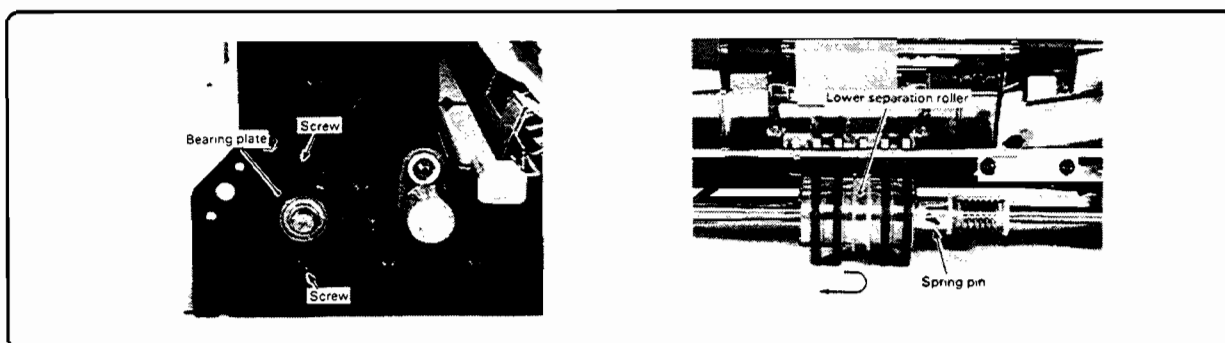
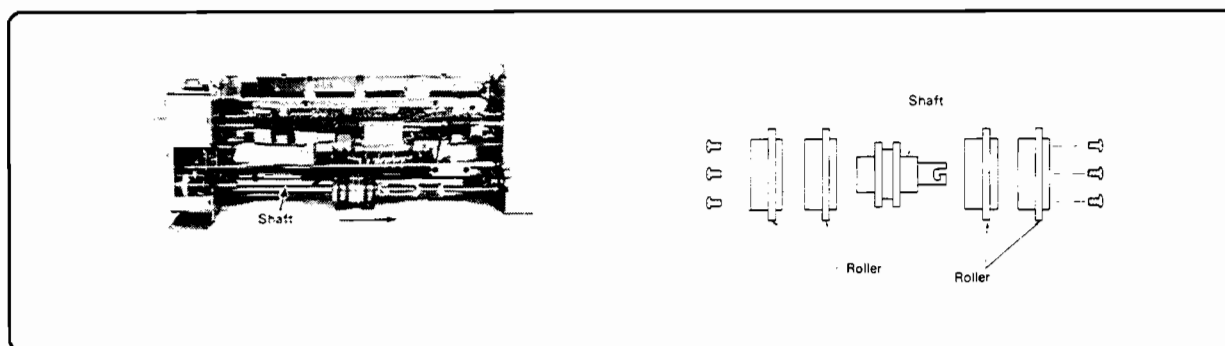

Figure 6-159. Bearing Plate and Spring Pin
Figure 6-160. Lower Roller Shaft
2. Remove the two screws, and remove the front bearing plate (Figure 6-159).
3. Push the Lower Separation Roller to compress the spring on the shaft; then twist the roller to release it from the spring pin (bayonet mount - see Figure 6-159).
4. Move the Lower Separation Roller shaft forward to release the shaft from the rear bearing, and remove the shaft from the front bearing opening. The roller will remain in position until the shaft is removed (Figure 6-159 and Figure 6-160).
5. Remove the Lower Separation Rollers from the shaft or hub (Figure 6-160).